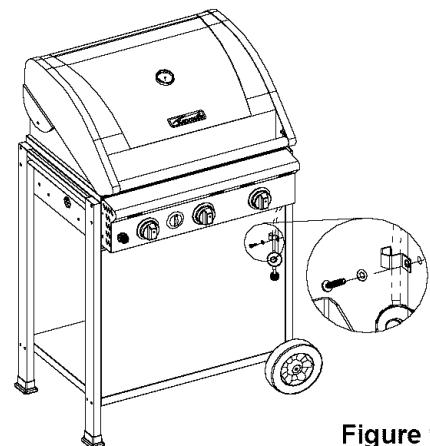

Figure 9
4. Attach and secure the regulator hose clamp and the regulator hose to the right front leg with (1) 1/4 x 1/2" Phillips screw head and 1/4" lock washer (Fig.9)